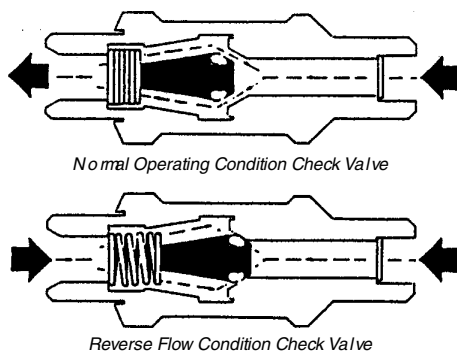

Figure 20.11
Cutting torches should be equipped with reverse flow check valves and flame arrestors to prevent flashback and explosion (Figure 20.11). These valves must be installed according to the manufacturer's instructions.
- Use backflow check valves and flame arrestors according to the manufacturer's instructions (Figure 20.11).